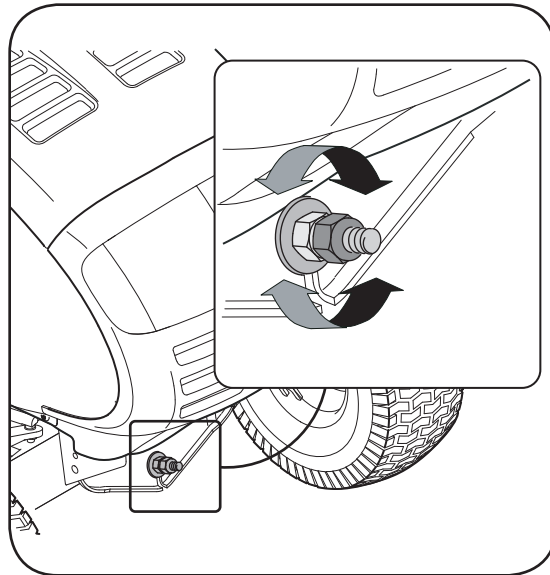

Figure 10
3. Locate the jam nut and lock nut on the front side of the stabilizer bracket. See Figure 10. After loosening the jam nut: